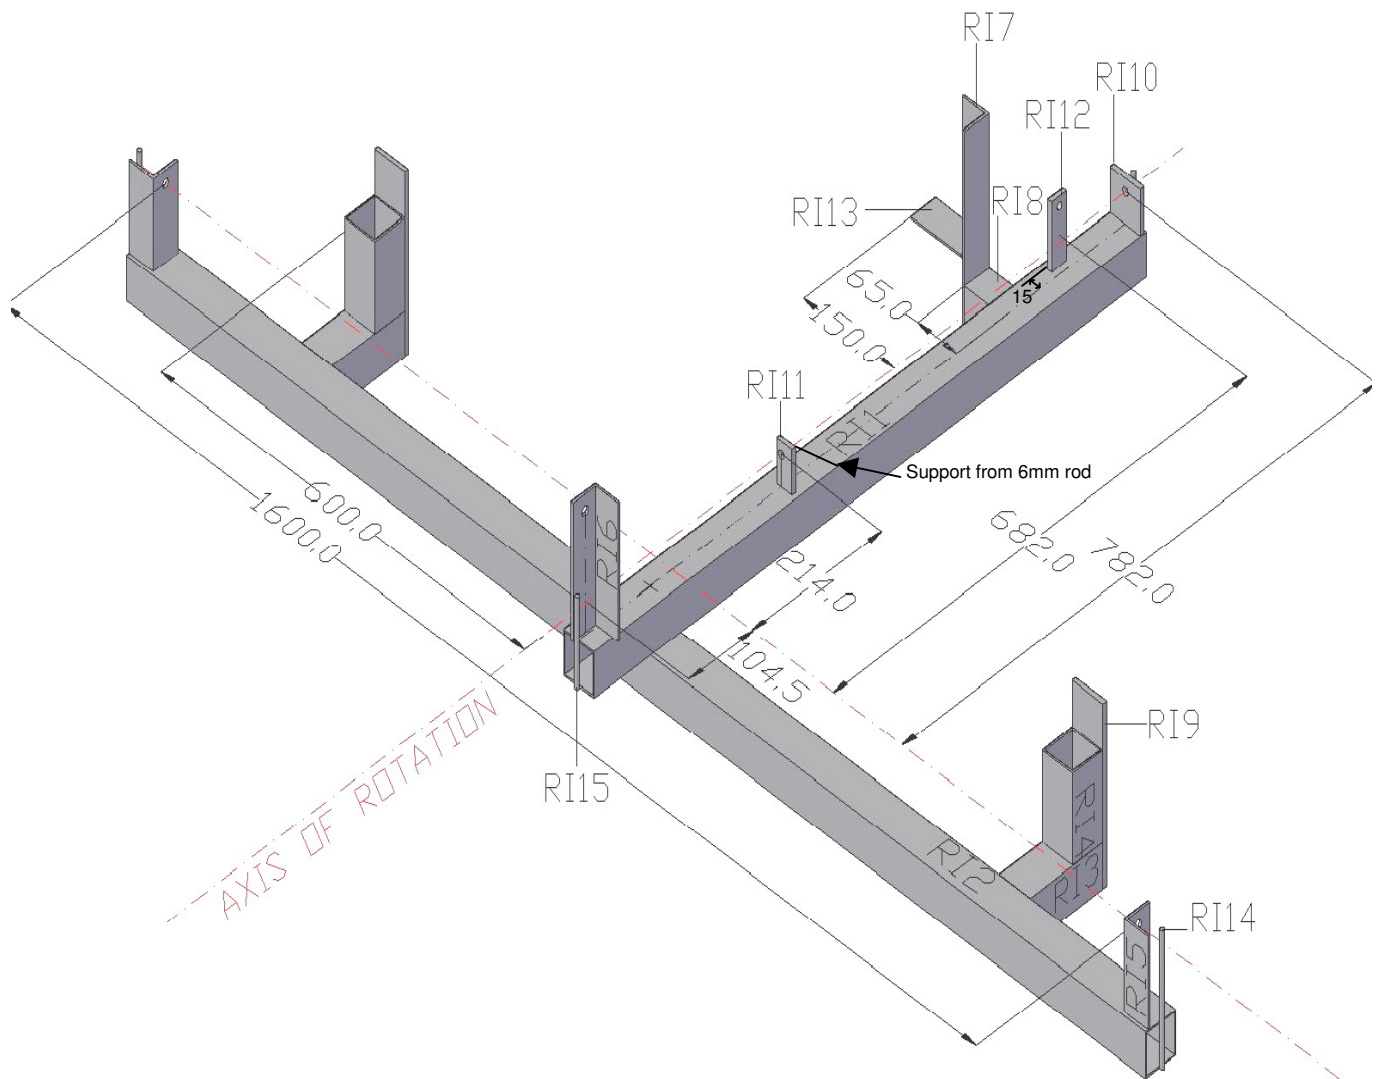

Fig. 3. Rotating Support Jig
- Step 4** Weld all the pieces to RI1 and RI2 according to Fig.3. Use the string cross as measuring point.